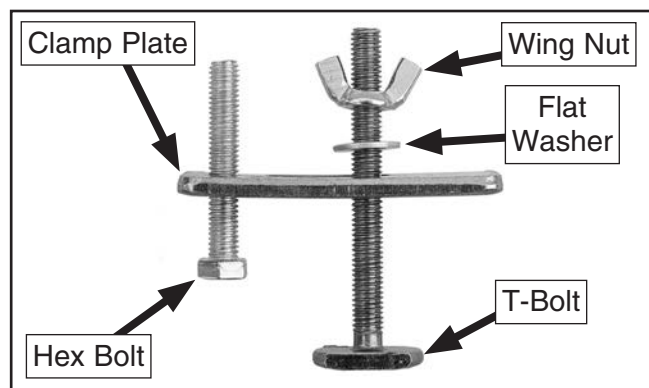

Figure 48. T-slot clamp components.
2. Thread hex bolt into clamp plate, then insert T-bolt through clamp plate and thread on flat washer and wing nut (see **Figure 48**).